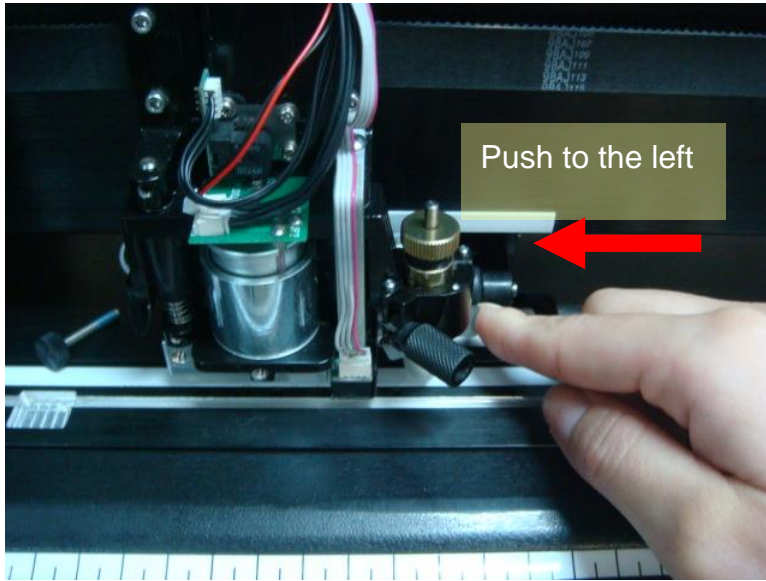

Figure 2-50
Step 9 Assemble the Cut-off Unit back to the Tool Carriage by pushing the metal board on the right while pushing the Cut-off Unit upwards (Figure 2-50 and 2-51) and attaching the screw (Figure 2-52).